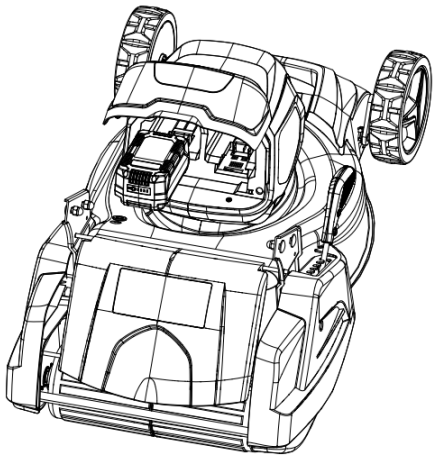

Fig.4A
1. Open the battery door. (Fig. 4A)